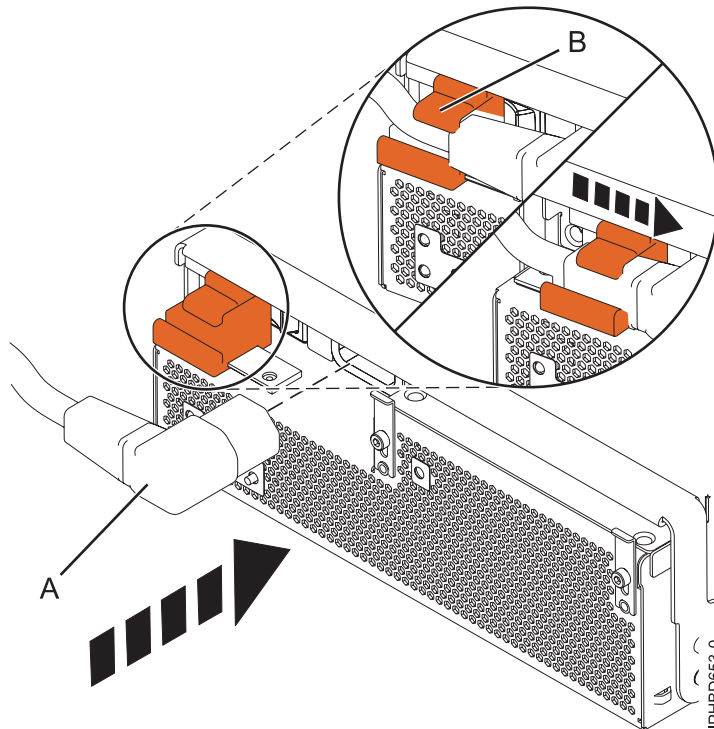

Figure 41. Connecting the power cable to the front of an expansion unit
7. Close the locking handle (A) until the power supply locks into position.
8. Reconnect the power cable **(A)** to the front of the power supply, and then slide the cable retention bracket **(B)** to the closed position to secure the cable as shown in Figure 41. When the bracket is moved to the closed position, the power supply is turned on.